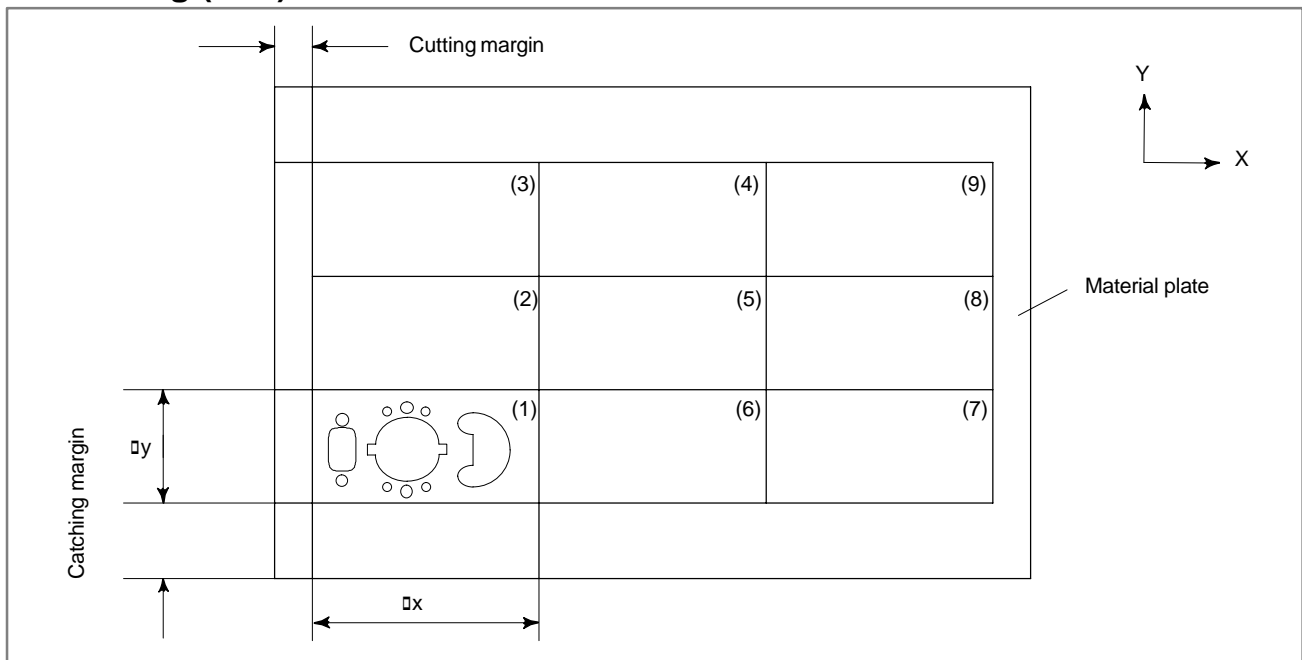

Fig.4.2.1
The point at the lower left of the set of multi-products (point B shown in Fig. 4.2.1; called as “Base point of multi-piece machining” hereafter) must be specified prior to the machining commands to punch on a product part by G98 as absolute co-ordinates under the system of co-ordinates specified using G92 command. In the G98 command, the X-axial and Y-axial lengths of one product and the numbers of products in the directions of X-axis and Y-axis must be specified.
q=1 Machining starts from the lower left area ((1) in Fig. 4.2.1)
q=2 Machining starts from the lower right area ((7) in Fig. 4.2.1)
q=3 Machining starts from the upper left area ((3) in Fig. 4.2.1)
q=4 Machining starts from the upper right area ((9) in Fig. 4.2.1)
If trial punching is selected, only the lower-left product part of material ((1) in Fig. 4.2.1). As a result, macros except 60 to 89 are executed while storing, and blocks specified in G73/G74 are all ignored.